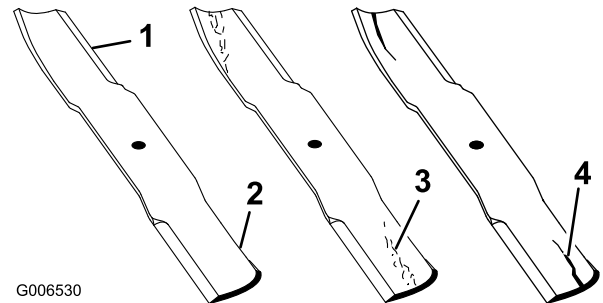

Figure 84
1. Inspect the cutting edges (Figure 84). If the edges are not sharp or have nicks, remove and sharpen the blades. Refer to (page).
2. Inspect the blades, especially the curved area (Figure 84). If you notice any damage, wear, or a slot forming in this area (Figure 84), immediately install a new blade.